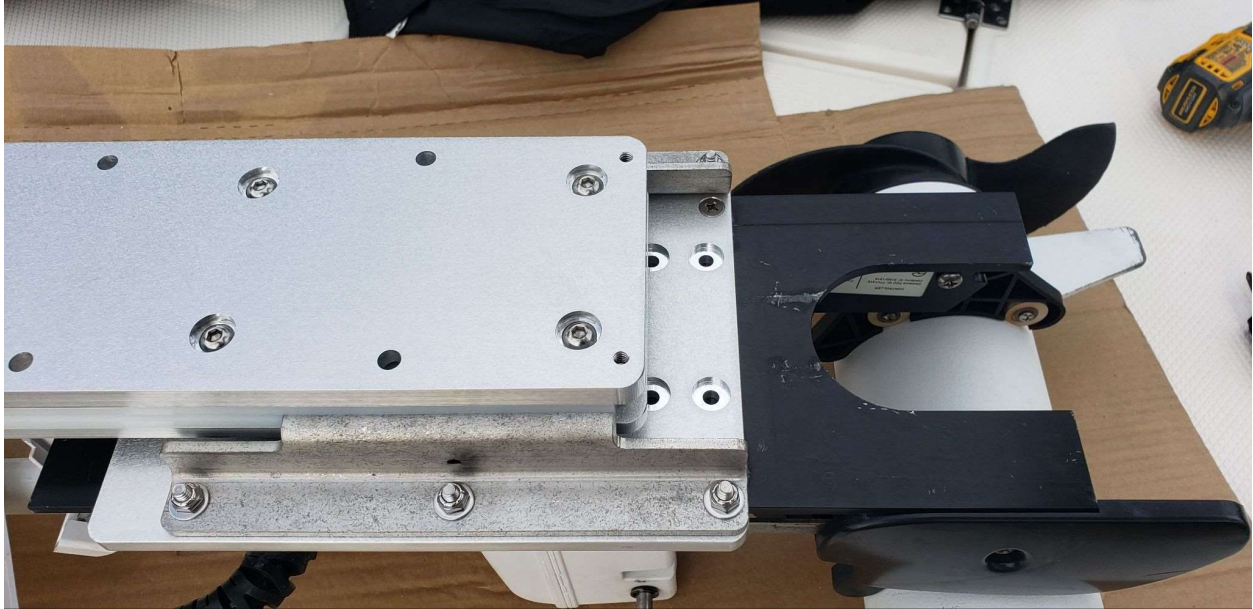

Figure 4b
- Slide the carriage fully to the end as shown in figure 4b